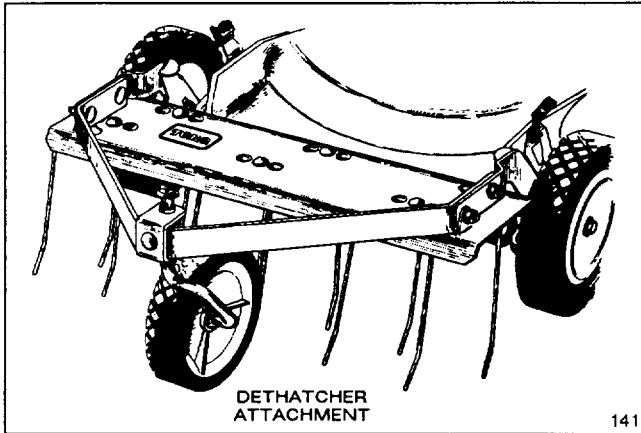

Figure 34
**2. Dethatcher Kit, Model No. 59131**—Installs in minutes. Front mounted for easy maneuverability. Spring tines loosen thatch for clean vacuuming into grass bag (Fig. 34) and convenient disposal.